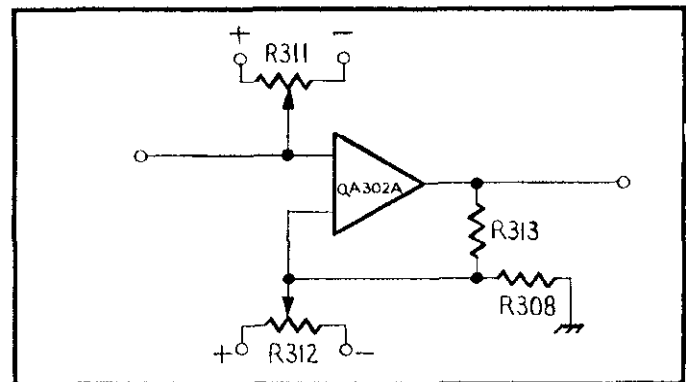

FIGURE 26. DC Offset Adjustment.
a. Adjustment "1" (R312). This control adjusts the d-c voltage offset of QA302A. Resistor R312 is connected to the non-inverting input of stage "E" as shown in Figure 26.
b. Adjustment "2" (R311). This control adjusts the d-c current offset of QA302A. Resistor R311 is connected to the inverting input of stage "E" as shown in Figure 26.